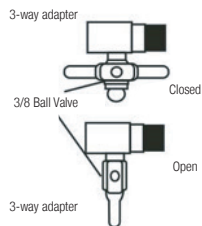

FIGURE A-3
3. Install 3/8" metal ball valve on the feedwater connection adapter (3-way adapter) by means of teflon band so as to turn on/off easily (Figure A -3).